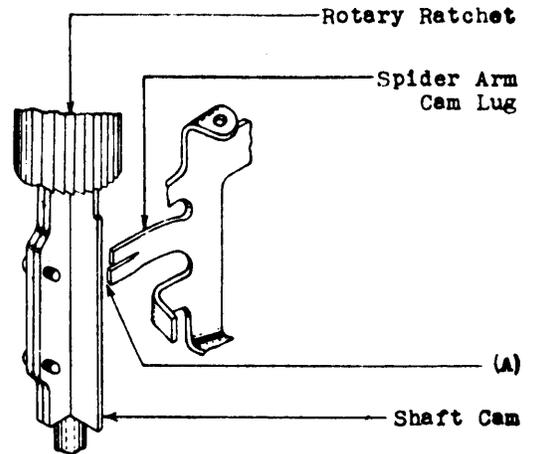

Fig. 5 - Relationship of the Spider Arm Cam Lug and the Shaft Cam
2.19 Clearance Between Spider Arm Cam Lug and Shaft Cam: Fig. 5 (A) - With the shaft up on any level and cut in one step, there shall just be perceptible clearance between the spider arm cam lug and the shaft cam. Gauge by eye.